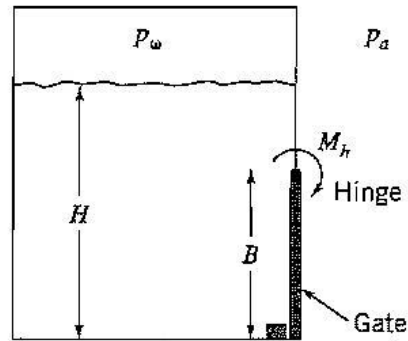

Figure P2.30
2.30 A primitive safety valve for a pressure vessel containing water is shown in Figure P2.30. The water has a density ρ , and it has a constant depth H . The gauge pressure exerted on the surface of the water is p_w , and the pressure outside the vessel is atmospheric. The gate is rectangular, of height B and width w , and there is a spring at the hinge which exerts a constant clockwise moment M_h . Find p_w for which the gate is just on the point of opening.